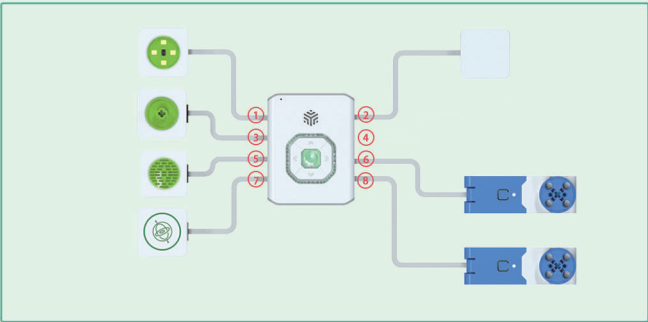

Figure 1
As shown in Figure 1, sensors are connected to ports ①, ③, ⑤, and ⑦ on the left side, and they can control the actuator modules connected to ports ②, ④, ⑥, and ⑧ on the right side. The logic is that ① controls ②.